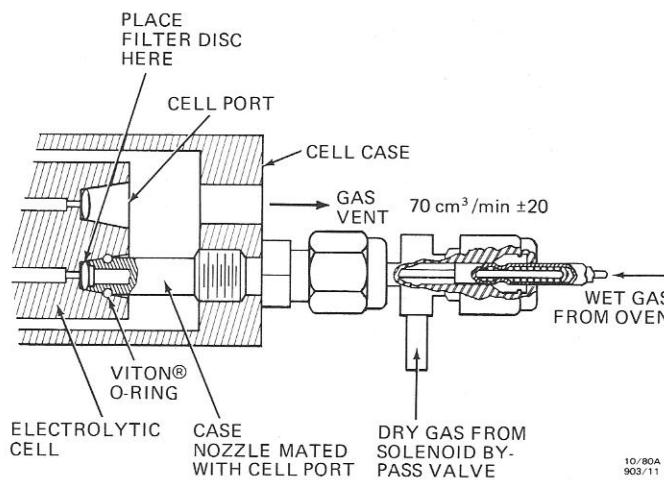

Figure 2-2. Cell Ports Mated with Nozzles and Position of Filters.
(1) Unpack the electrolytic cell and remove its protective cap.
(2) Take a cell filter disc from the envelope and place it in the bottom port as shown in figure 2-2.
(3) Remove the cap from the cell case and carefully insert the cell into the cell case, port end first.
(4) Gently push the cell to the rear of the case while slowly turning it. When you feel the cell ports engage the intake and exhaust nozzles, continue the pressure until the ports fully engage the nozzles. The nozzles must be flush against the cell ports (figure 2-2).